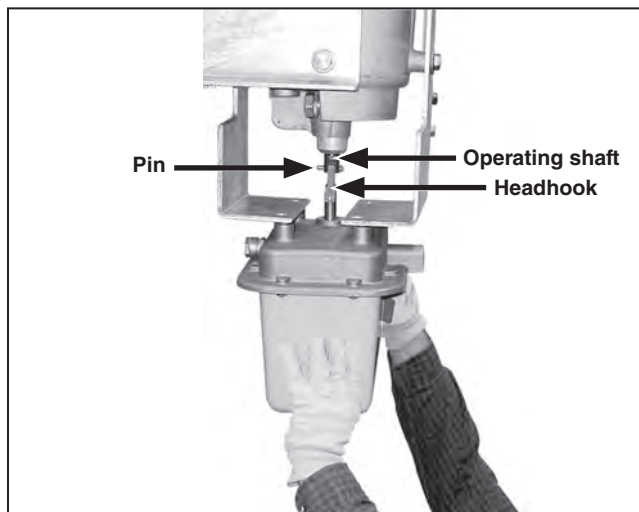
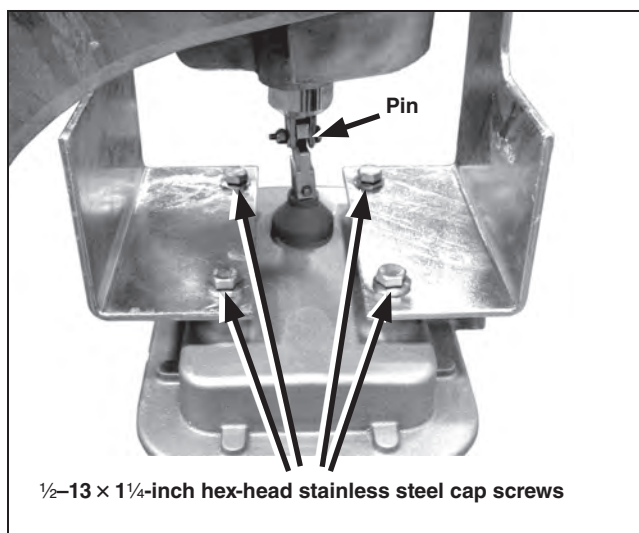

Figure 32. Attach the motor to the operating shaft.
Figure 33. Secure the motor to the motor brackets.
**STEP 3.** Hook the headhook onto the operating shaft pin. The headhook should hang securely from the operating shaft. Turn the motor until the mounting bosses align with the holes in the mounting brackets. See Figure 32. Using the four  $\frac{1}{2}$ -13  $\times$   $1\frac{1}{4}$ -inch stainless steel hex-head cap screws and flat washers furnished, fasten the motor to the brackets. Tighten the screws to between 40 and 50 ft.-lbs. See Figure 33.